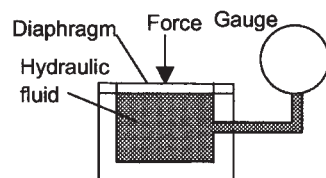

Figure 2.30 Hydraulic force measurement system
- 2 *Hydraulic pressure methods* use the change in pressure of hydraulic fluid that is produced by the application of a force as a measure of the force. A chamber containing hydraulic fluid (Figure 2.30) is connected to a pressure gauge, possibly a Bourdon tube pressure gauge. The chamber has a diaphragm to which the force is applied. The force causes the diaphragm to move and produces a change in pressure in the fluid which then shows up on the pressure gauge. Such methods tend to be used for forces up to 5 MN and typically have an accuracy of the order of $\pm 1\%$.